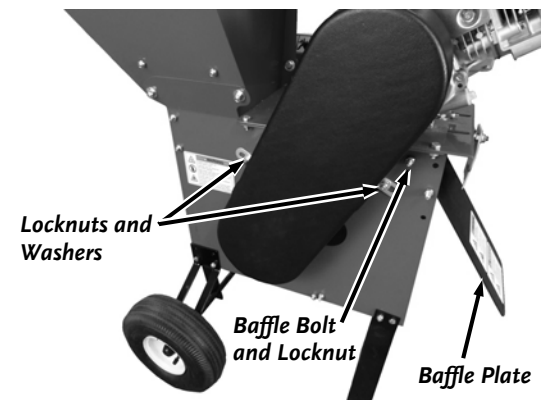

Figure 14
1. Using two 1/2" Wrenches, Remove the locknut and washer from the bolt securing the right side of the Belt Guard (**Figure 14**).
5. Use two 1/2" wrenches to remove the locknut and Baffle Bolt and set the Baffle Plate aside for better access under the Engine (**Figure 14**).